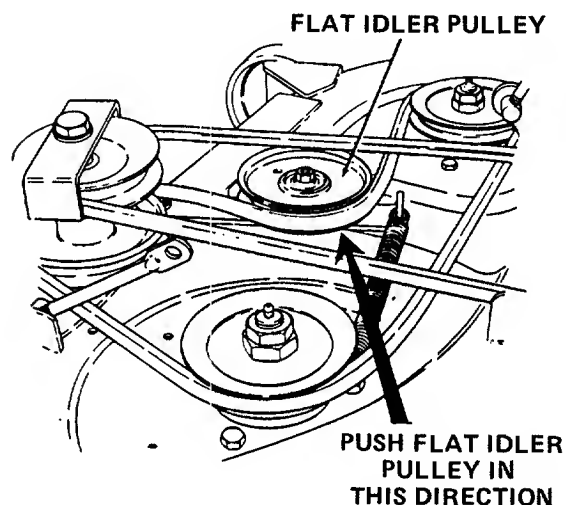

Figure 55
2. Refer to Figure 55. Move the flat idler pulley to the left in order to relieve tension on the belt, and remove the spindle drive belt from the flat idler pulley.